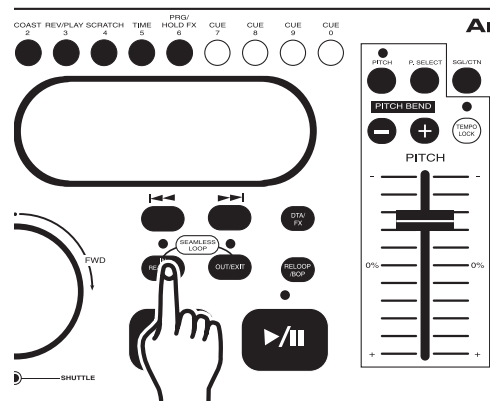

Figure 19
A cue point is the exact point playback will begin when the PLAY/PAUSE BUTTON (29) is pressed. A cue point may be anywhere on a disc or in a track. You may set and store up to five independent cue points per disk. Four cue points are stored in the CUE MEMORY BUTTONS (6) and one in the IN REAL-TIME CUE BUTTON (26). Once a cue point is set it may be recalled at any time during normal playback. Figures 19 and 20 will detail the procedures for setting your custom cue points. There are two ways to set a CUE point:
- 1) Press the IN REAL-TIME CUE BUTTON (26) on the fly (while a disc is playing). This will set a CUE Point without music interruption. Once this point is set, you may return to this point at any time by pressing either the CUE BUTTON (27) or the RELOOP/BOP BUTTON (30). Pressing the CUE BUTTON (27) will stop playback and return the disc in cue mode, pressing the RELOOP/BOP BUTTON (30) will return the disc to cue point without music interruption and continue playback from that point.